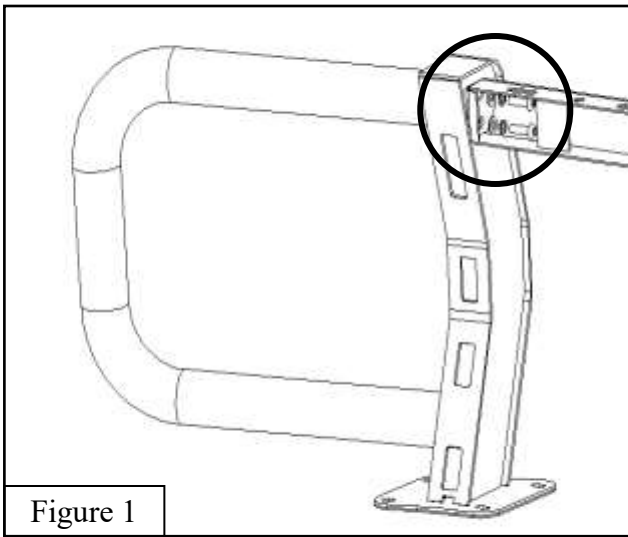

Figure 1
2. Begin by assembling the Light Channel (**Item 1**) to the Driver Side XTS Wing (**Item 2**) using the provided M8 hardware (**Items 4-6**). See **Figure 1 and 2** for reference.